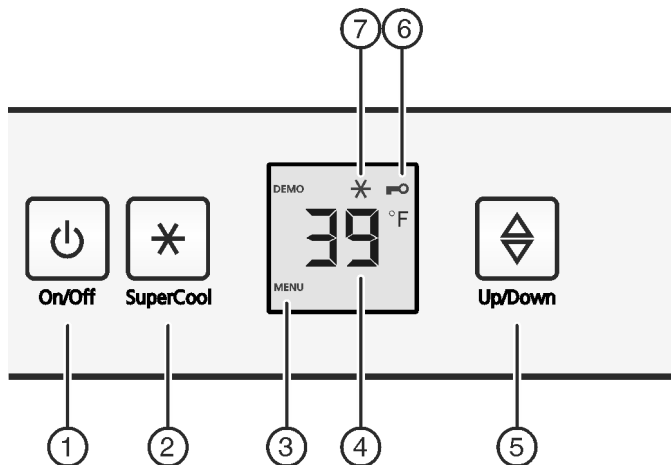

Fig. 3
- ▶ Press the On/Off button Fig. 3 (1).
- ▶ Press and hold the SuperCool button Fig. 3 (2) for approx. 5 seconds.
- ▷ In the display, the Menu Symbol Fig. 3 (3) is displayed.
- ▶ Confirm briefly by pressing the SuperCool button Fig. 3 (2).
- ▷ The Child Safety symbol Fig. 3 (6) lights up on the display.
- ▶ Press the On/Off button Fig. 3 (1) briefly.
- Call up the temperature function: Press the Set button *Fig. 3 (5)*.
- Changing the temperature in 1 °F (1 °C) intervals: Press the Set button *Fig. 3 (5)* until the desired temperature appears in the temperature display.
- Briefly press the SuperCool button *Fig. 3 (2)*.
- ▷ The SuperCool symbol *Fig. 3 (7)* lights up in the display.
- ▷ The SuperCool symbol *Fig. 3 (7)* goes out in the display.